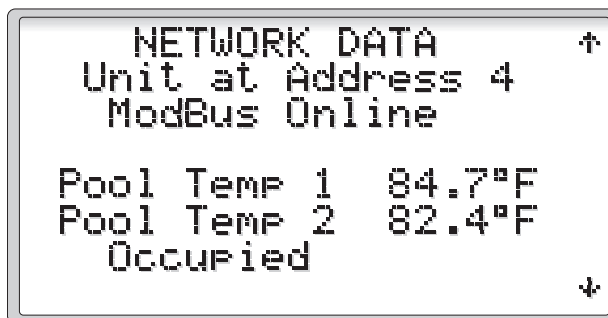
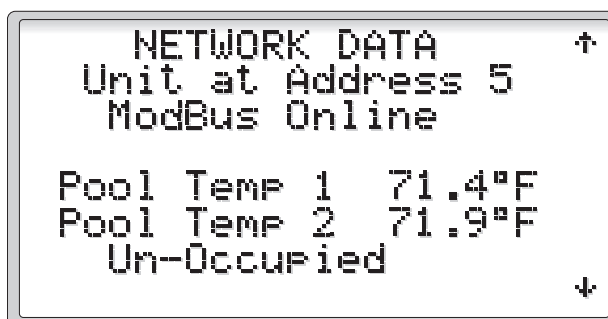

Figure 12
Figure 13
2.2.1.3 Network Data (Figures 12 and 13)
This screen displays any network data that could be sent from a Desert Aire SelectAire™ dehumidifier. Figure 12 will show the data from the dehumidifier at ModBus address 4 and Figure 13 will show the data from the dehumidifier at ModBus address 5. The third line of these screens will display either Network Offline or ModBus Online, depending upon the ModBus network status. (NOTE: The operator cannot change these settings.)